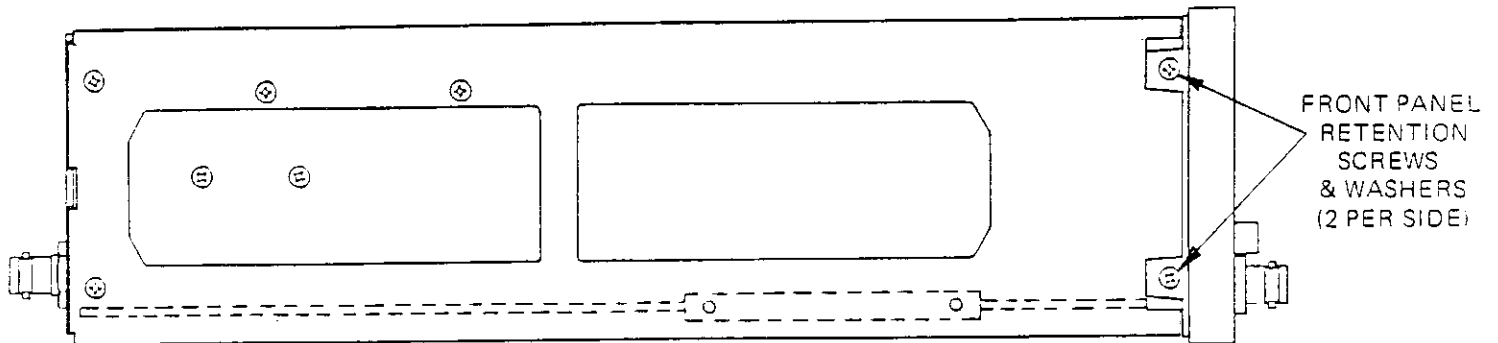

Figure 6.6 - Front-Panel Retention Screw Removal
- c. Remove the two screws and washers securing the front panel to each side frame of the instrument. See Figure 6.6